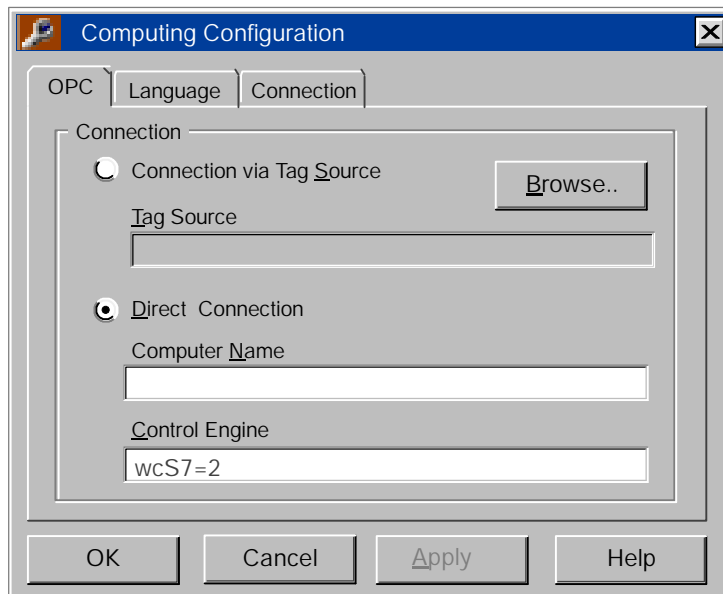

Figure F-5 Configuring the OPC Connection
You can use the optional OPC application to connect to a control engine over a network, such as a local area network (LAN). The Direct Connection option (Figure F-5) allows you to connect to a specific control engine on a specific computer.
1. Select the **Simatic > PC Based Control > Computing Configuration** menu command from the Start menu to display the Computing Configuration dialog box. Select the OPC tab. See Figure F-5.
2. Select the Direct Connection option and enter the name of the control engine. For example: As shown in Figure F-5, **wcS7=2** is the S7-2xx with a node address of 2.